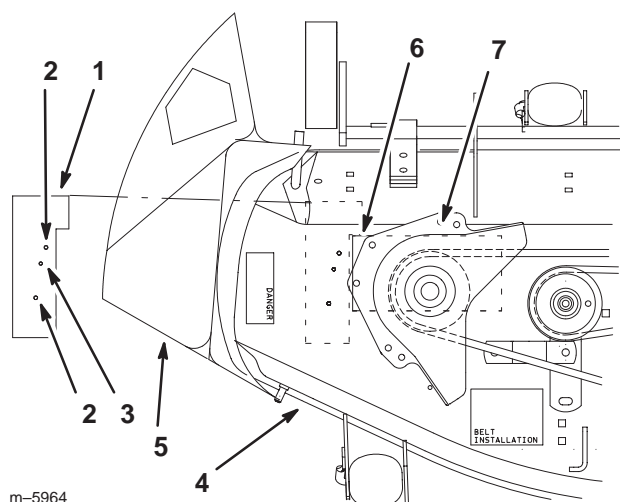

Figure 13
2. Remove the existing belt guard (Fig. 13).
3. Place template number 2 on top of the mower. Align it so the notch in the template fits around the reinforcement plate and the template matches the existing hole (Fig. 13).
4. Center punch the 2 holes that are to be drilled and remove the template (Fig. 13).
7. Install the belt guard (Fig. 13).